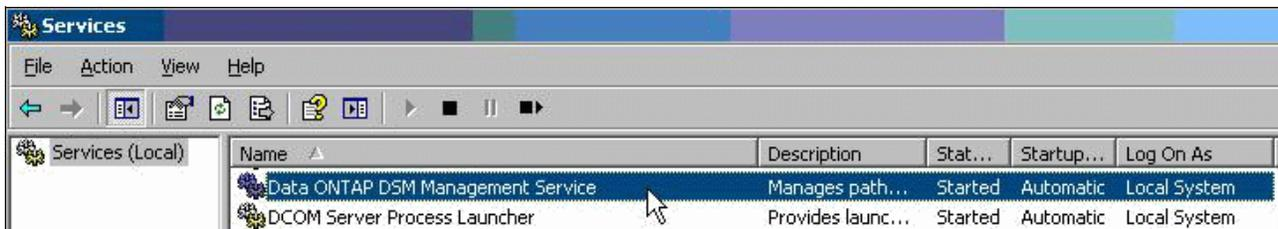

Figure 5-9 ONTAP DSM service running on successful installation
8. When prompted, click **Yes** to reboot the Windows host. The Data ONTAP DSM service appears in the MMC Services applet after the reboot, as shown in Figure 5-9.